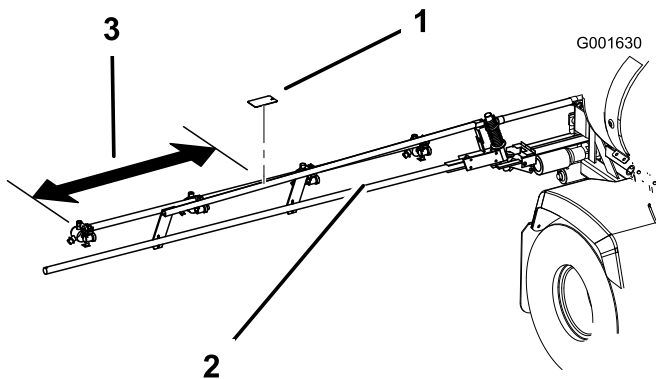
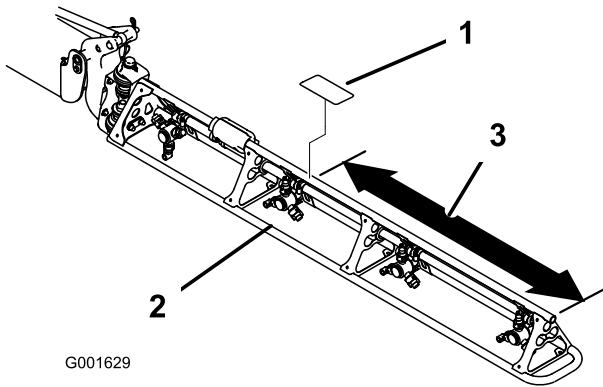

Figure 10
Figure 11
1. Measure from the end of the booms as shown in Figure 10 or Figure 11.